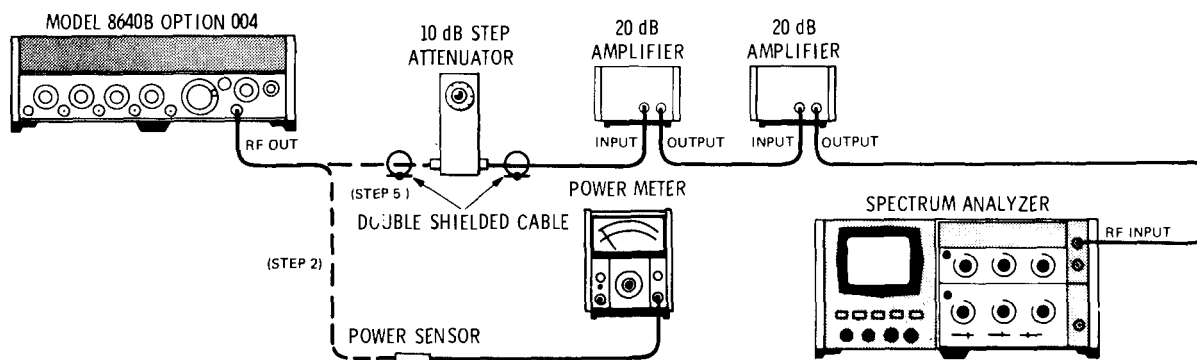

Figure 4-10. Output Level Accuracy Test Setup (Abbreviated)
1. Connect equipment as shown in Figure 4-10 after setting Signal Generator's controls as follows: